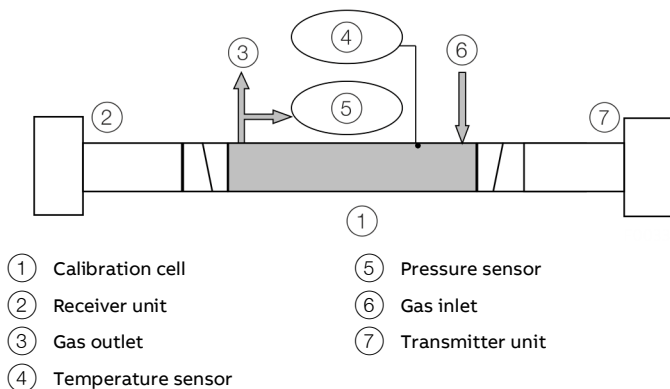

Figure 53: Calibration set
2. Install the transmitter and receiver units on the test cell, see Figure 53.